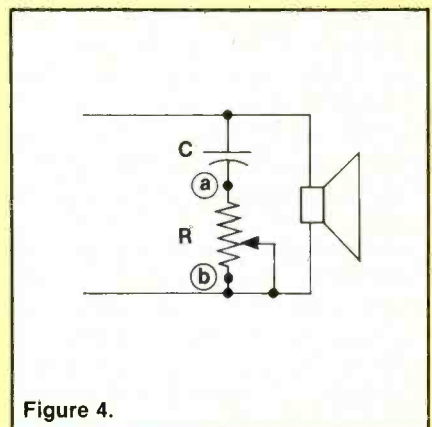

Figure 4.
7. The R-C circuit in Figure 4 is called a *false bass tone* control. To increase the treble sound, move the arm of the variable toward